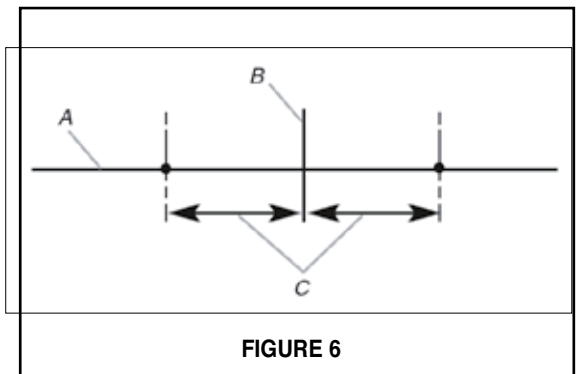

FIGURE 6
3. Mark 2 points on each side of the (B) horizontal line 3 1/2" from the vertical centerline (C in FIGURE 6). Drill 2 holes for installation, the screws provided are for mounting the range hood into wood; mounting into drywall or plaster is not recommended. Install the 2 mounting screws, leave a 1/4" gap between the wall and the back of the screw head to slide the range hood into place.